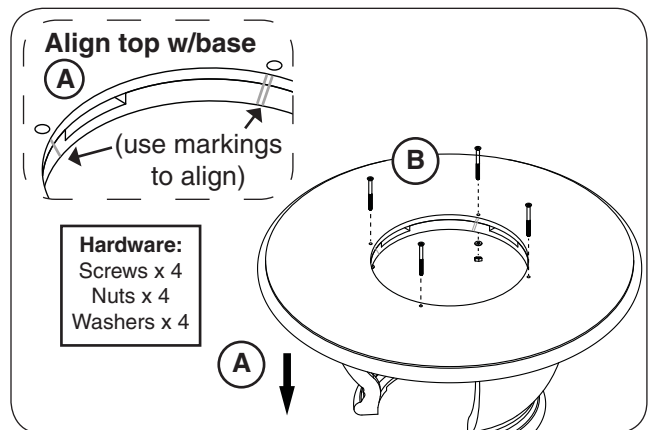

Fig. 23-3 Place top and fasten
3. **CAREFULLY** place the top on the unit, ensuring that the markings along its inner ring align with those found on the base (see Fig. 23-3, A).
4. Use a Phillips screwdriver and the supplied bolts (4), nuts (4), and washers (4) to fasten the top to the base as shown in Fig. 23-3, B.